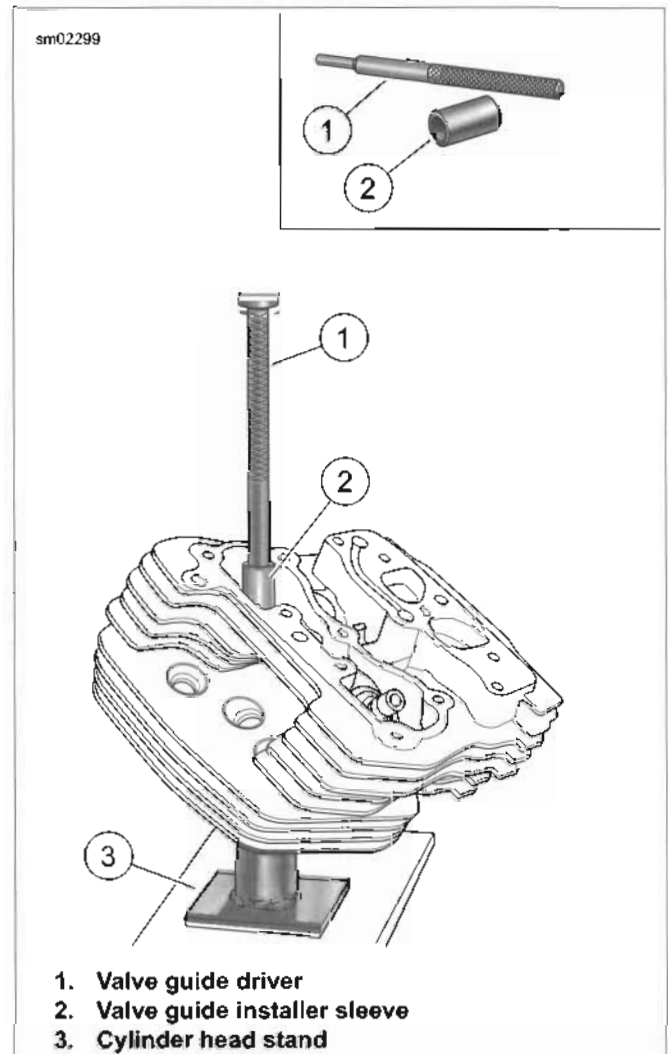

Figure 3-46. Install Valve Guide
- d. See Figure 3-46. Place VALVE GUIDE INSTALLER SLEEVE (Part No. B-45524-2A) (2) over valve guide and then insert valve guide driver (1) into sleeve.